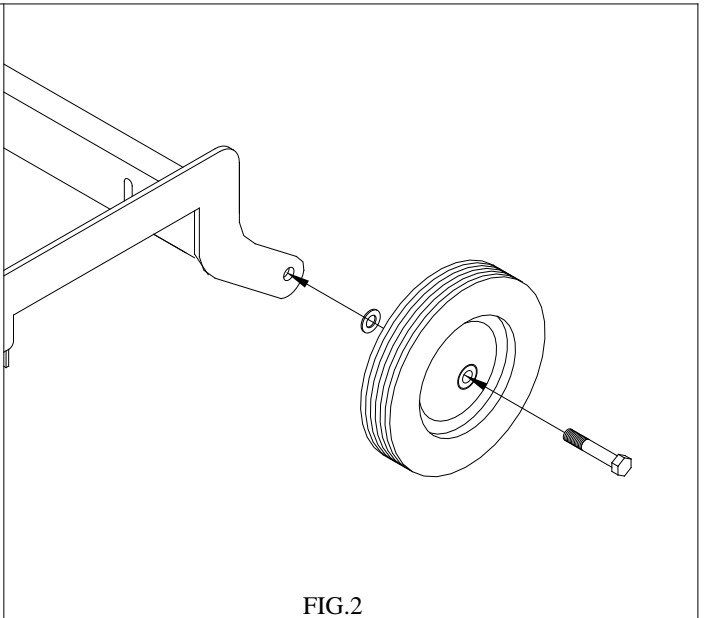

FIG. 2
2. Attach wheels (J) as illustrated **Fig. 2** with 1/2-13 x 2 3/4" HHC, 1/2" USS flat washer and locknut provided.